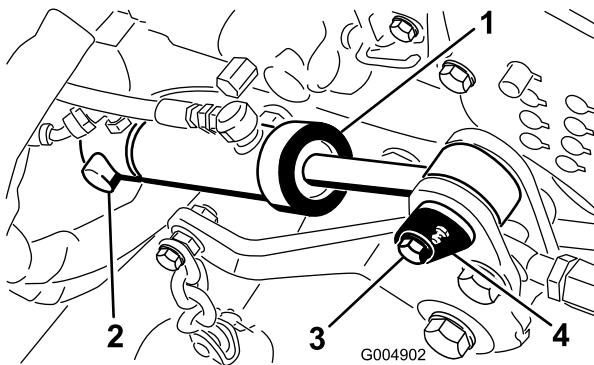
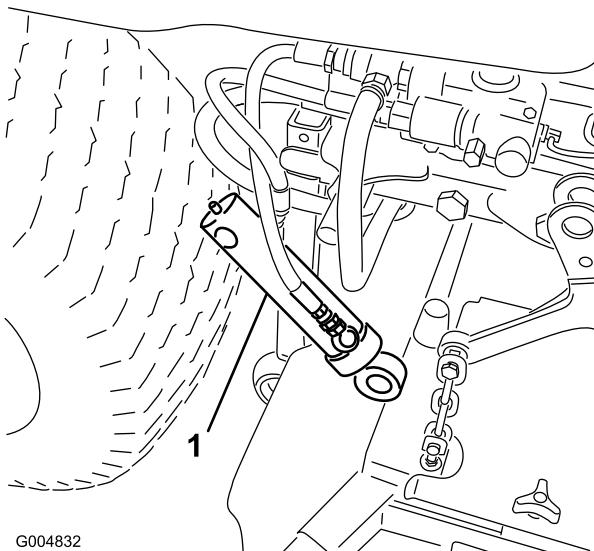

Figure 36
Figure 37
5. Remove the retaining ring securing the rear of the deck lift cylinder to the pivot pin (Figure 36).
6. Remove the screw securing the front cylinder pivot pin to the mower frame (Figure 36). Remove the cable tie securing the pressure and tank hoses.
7. Remove the front pivot pin and slide the cylinder off the rear pin (Figure 36). Let the cylinder hang out of the way on the hoses (Figure 37).